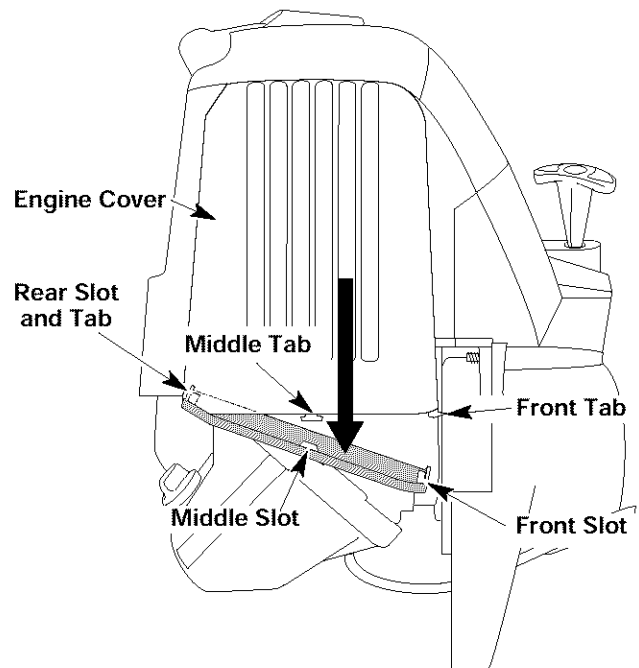

Fig. 41
1. Remove the muffler cover by pressing down on it, separating it from the engine cover. Using a flat blade screwdriver, disengage the middle and front tabs and slots first. The cover will hinge off from the rear tab (Fig. 41).
- Reinstall the muffler cover. Slip the rear tab on the muffler cover into the engine cover rear slot. Then slide the remaining slots into the tabs until they snap into place (Fig. 41).